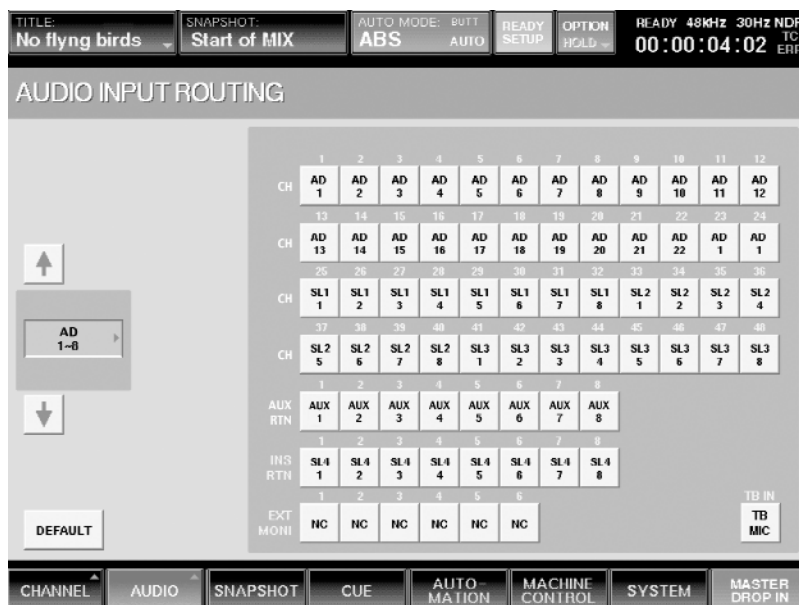

Figure 17
- 5 To mult that signal to channel 23 as well, simply press the Channel 23 button. The signal connected to the first head amp will now appear on both input channels 23 and 24. (See Figure 17)